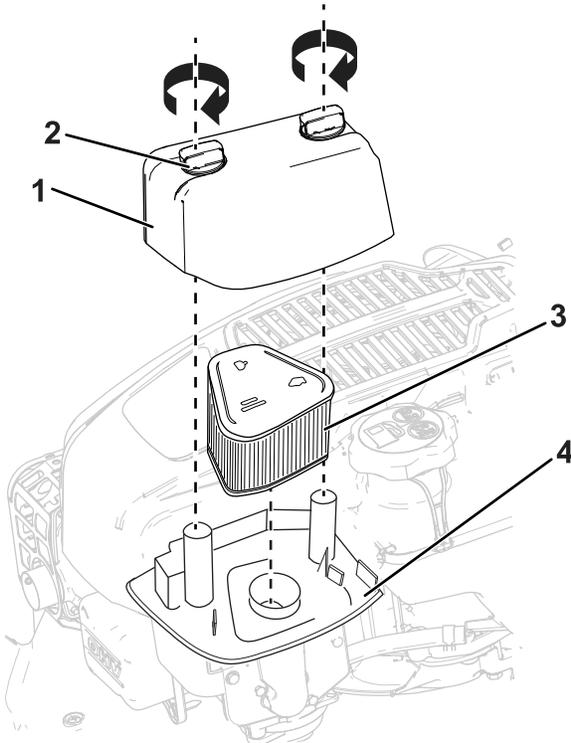

Figure 22
1. Loosen the fasteners and remove the air-filter cover (Figure 22).